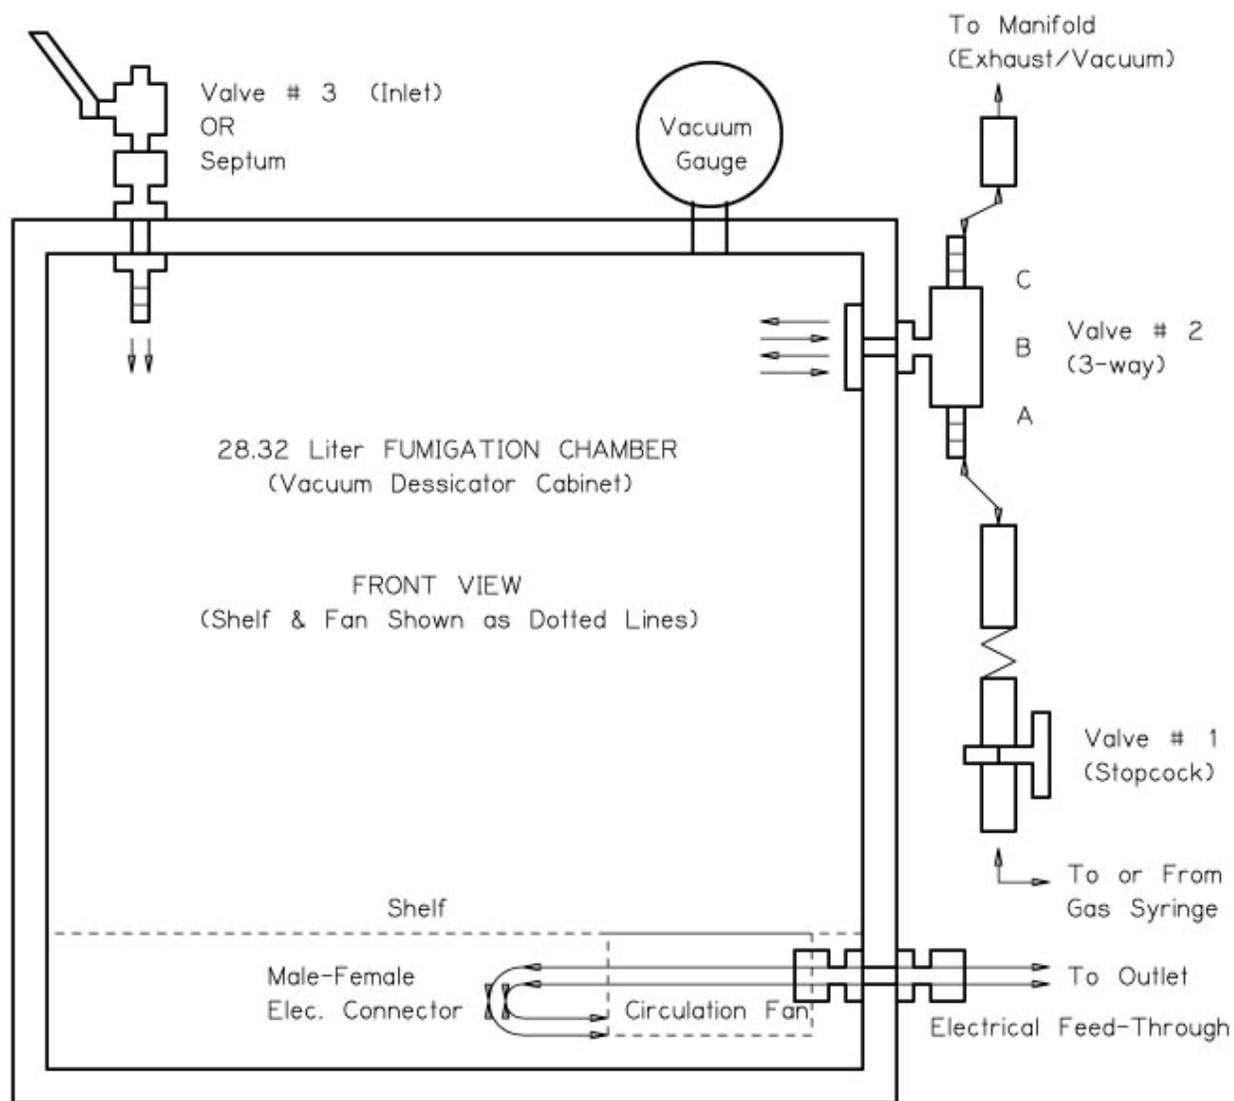

Figure 4. Illustration showing part numbers as described in text and as listed in Table 1.
Refer to Figure 4 and Table 1 for part and tool numbers (P# and T#) and for clarification of description or application.
Table 1. Description of parts (P) and tools (T). Refer to Figure 4 and text.